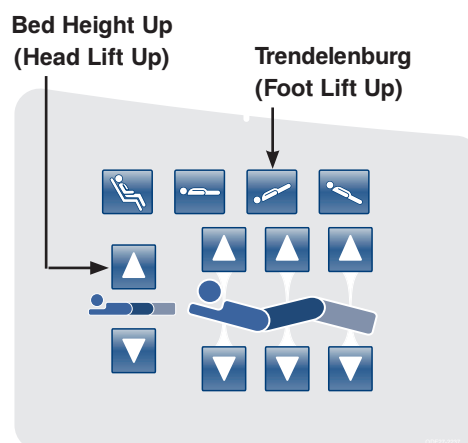

Figure 10: Head Siderail Control Panel
8. Raise the bed height to 20 inches measuring from the top of the seat section to the floor. Press the **Bed Height Up (Head Lift Up)** and **Trendelenburg (Foot Lift Up)** buttons as shown in Figure 10.